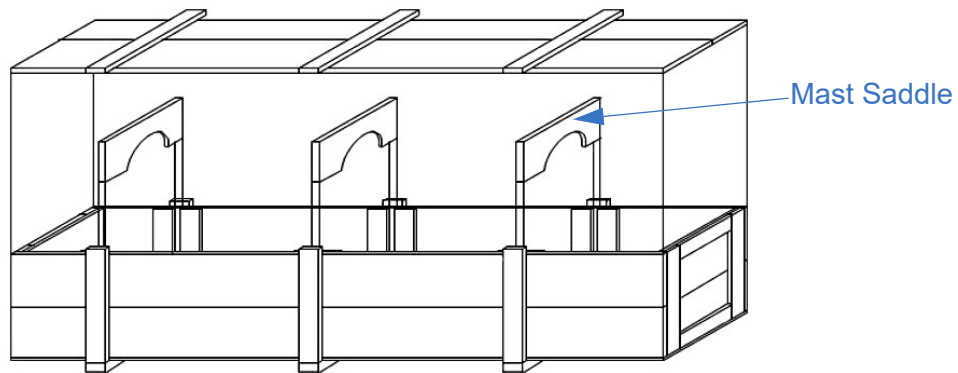

Figure 4-1 Shipping Crate
3. Remove all loose components, the 2 x 4 inch (38 x 89 mm) block at the top end of the mast, and the top half of the wooden mast saddles (Figure 4-1).